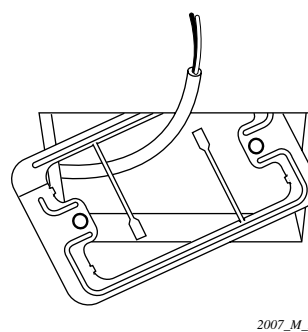

Fig. 7-19
- (1) Remove the cover plate by inserting a flat tip (minus) screwdriver or similar tool into the notch in the lower section and prying it off.
- (2) Cut out a section (3-3/4 × 2-1/32 in.) on the ceiling using the paper pattern (supplied) as a guide.
- (3) Run the wire through the mounting carrier and insert into the installation hole as shown in Fig. 7-19.